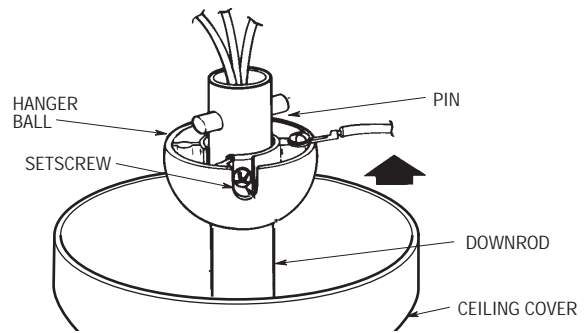

Figure 3
4. Place the ceiling cover over the downrod, making sure that the large opening faces upward (Figure 3).
5. Reinstall the hanger ball (Figure 3) on the downrod as follows. Route the three 80" motor leads through the hanger ball. Position the pin through the two holes in the downrod and align the hanger ball so the pin is captured in the groove in the top of the hanger ball. Pull the hanger ball up tight against the pin and securely tighten the setscrew in the hanger ball. A loose setscrew could create fan wobble.